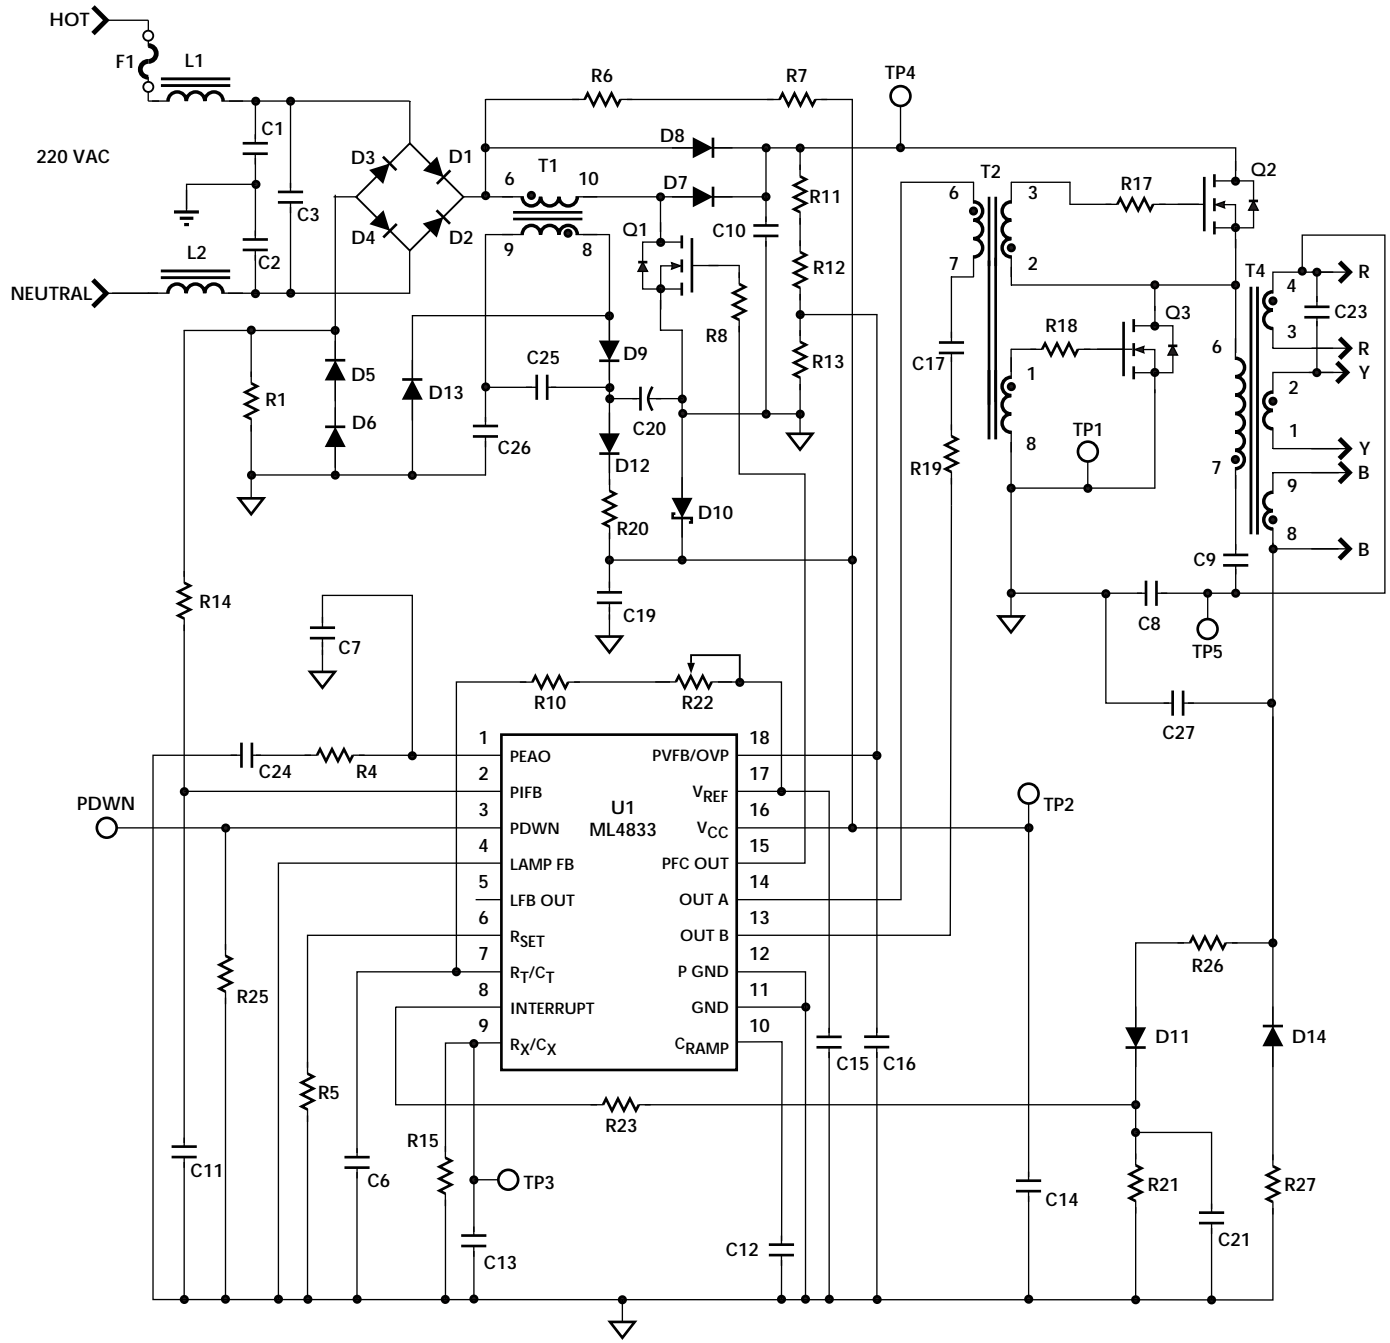

Figure 2. Non-Dimming 220V Schematic
2. Remove components R2, R3, R16, C4, C5 and T5 (as shown in Figure 2). Ground LAMP FB.